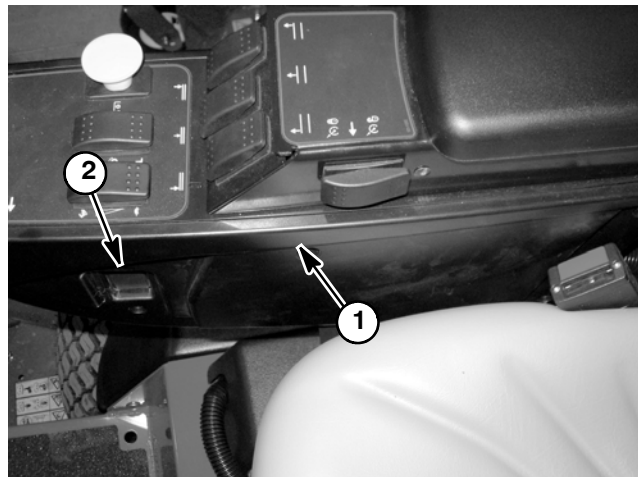

Figure 46
The Groundsmaster 4110-D headlight switch is a two (2) position rocker switch that is located on the inside of the control arm (Fig. 46). The headlight switch allows the headlights and taillights to be turned on and off.